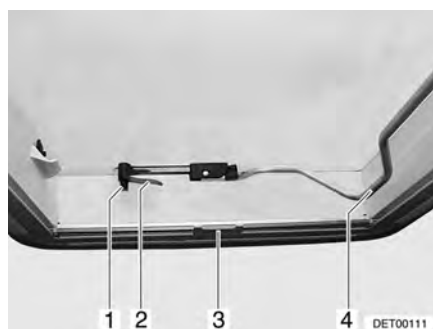
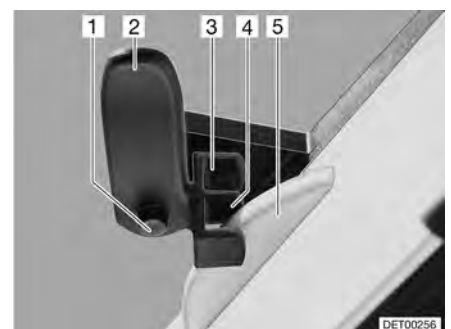

Fig. 64 Heki skylight, closed
Fig. 65 Heki skylight in ventilation position 1
- Press the safety knob (Fig. 64,1) and turn the catch lever (Fig. 64,2) one quarter turn inward.
- Pull the bar (Fig. 64,4) downwards out of the latch.
- Turn the catch lever (Fig. 64,2 and Fig. 65,2) one quarter turn. The hook of the roof lock (Fig. 65,5) must engage in the upper locking fork (Fig. 65,3).
- Press the safety knob (Fig. 65,1) and turn the catch lever (Fig. 65,2) back. The hook of the roof lock (Fig. 65,5) must engage in the lower locking fork (Fig. 65,4).